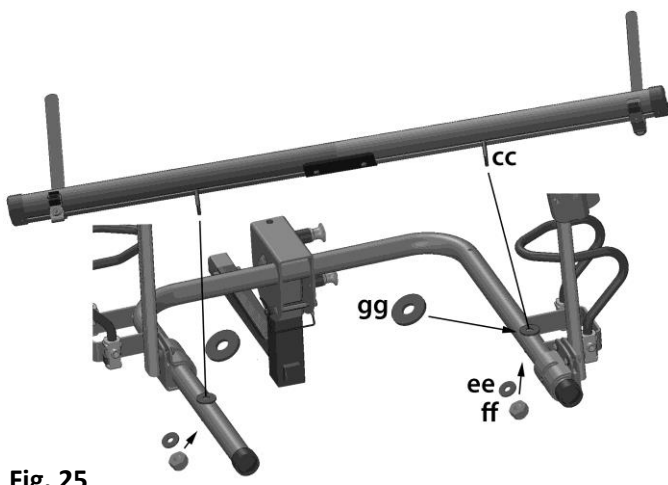

Fig. 25
**Per Fig. 25:** Place large nylon washers **g-g** on top of main frame tubing. Slide carriage bolts so they align with holes in the frame's tubing. Insert both carriage bolts through the washers and frame so the bolts protrude from the bottom. NOTE: you will have to carefully "feed" the wheel trays through the tire cages for positioning.